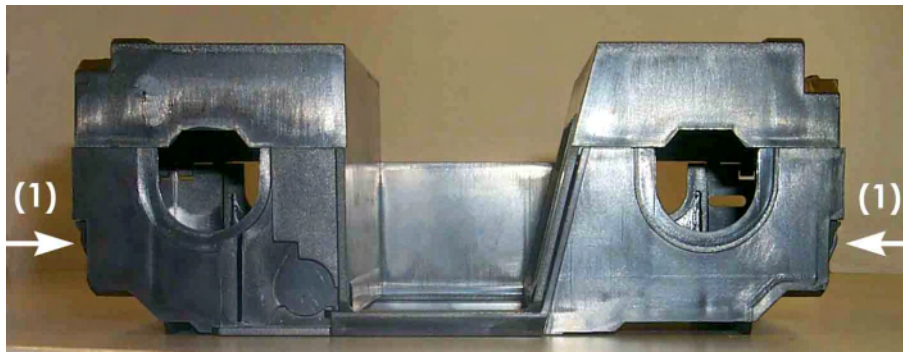

FIG 1-17
2. Insert the RI chip into the bottom of the cassette (orientation is shown in figure 1-17 – the arrow indicates the direction for inserting).